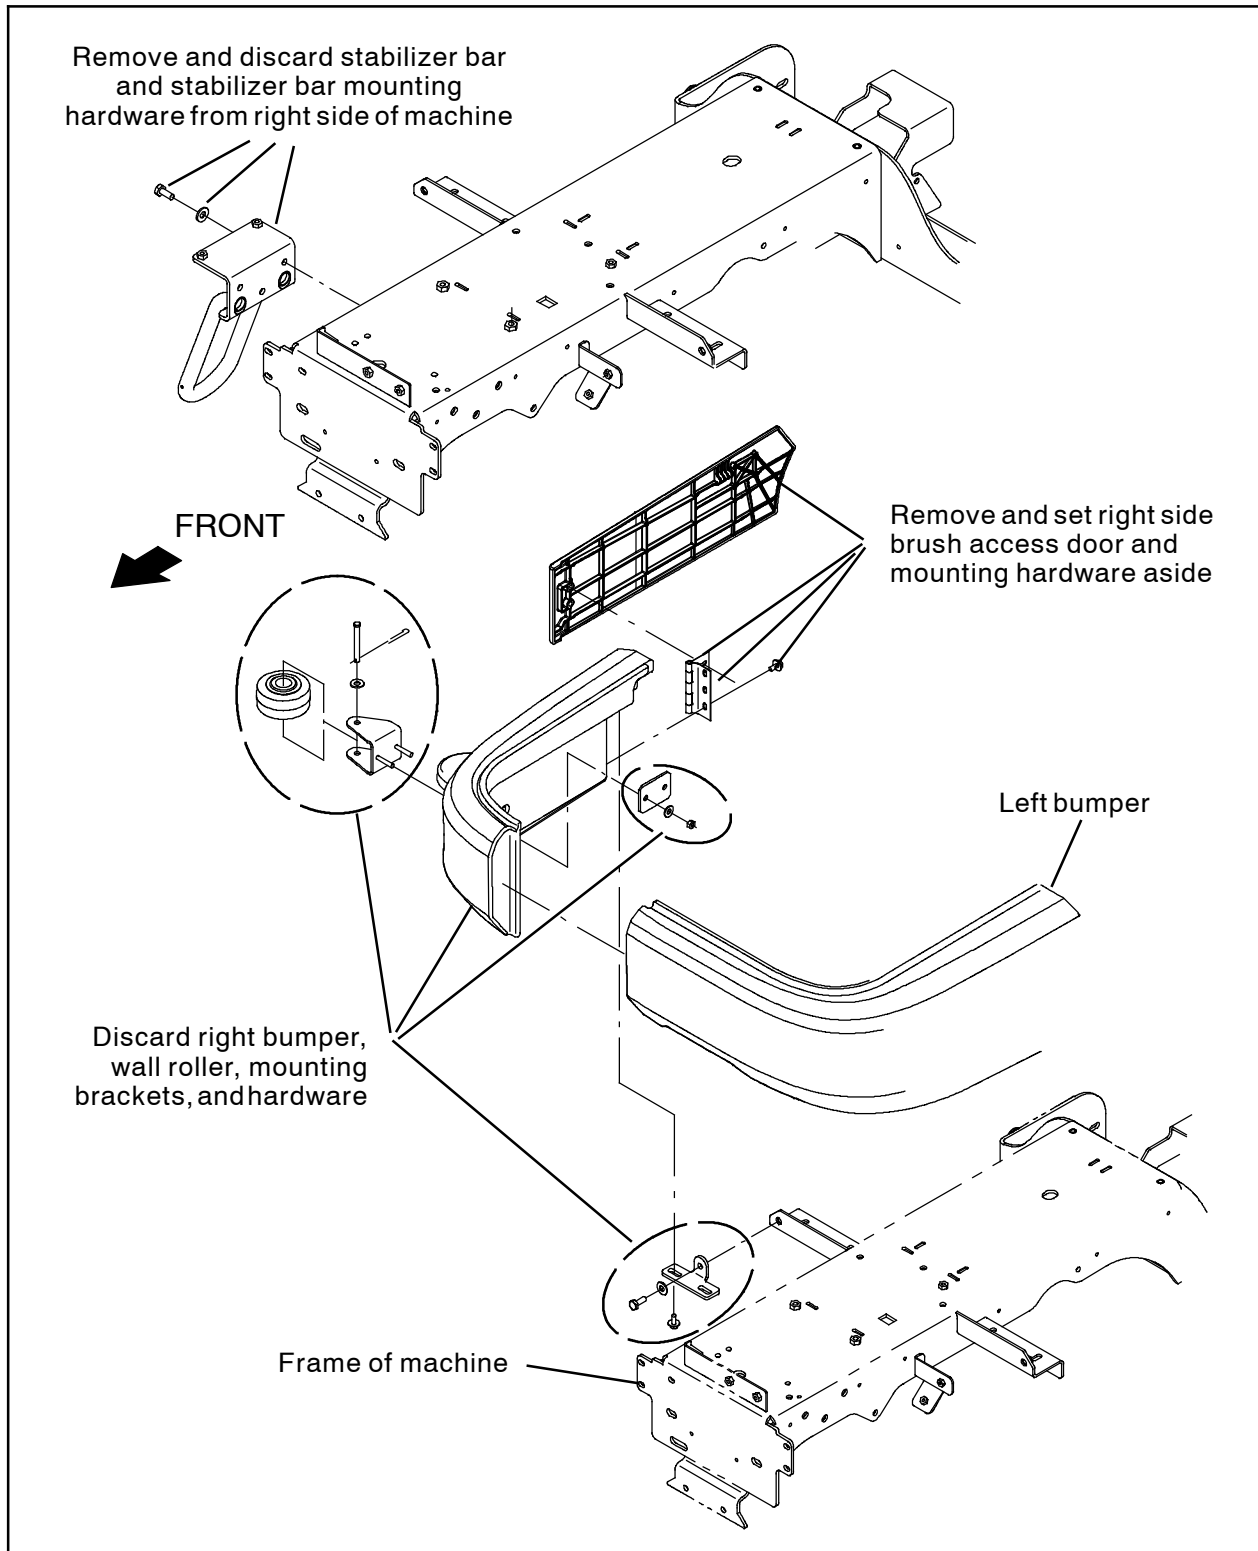

FIG. 1
1. Remove the right stabilizer bar and right bumper assembly from the machine. Set the right side brush access door and mounting hardware aside. Discard all remaining items removed from the machine. (Fig. 1)